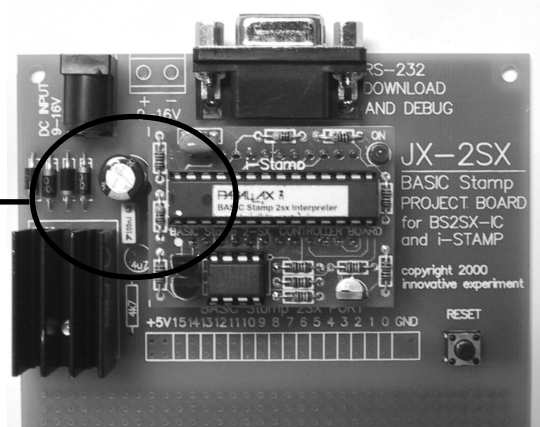

Figure 2 : Show i-Stamp installation on JX-2SX Plus II board.
3.1 Install i-Stamp on female socket following the Figure 2. Must installation right direction for protection i-Stamp damage.